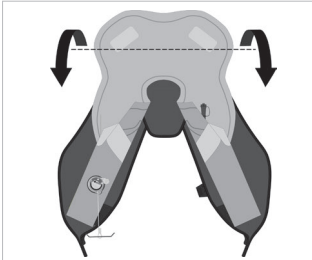

FIGURE 62
9. Fold the top of the bladder down over the pillow along fold line 9 (Fig 62).